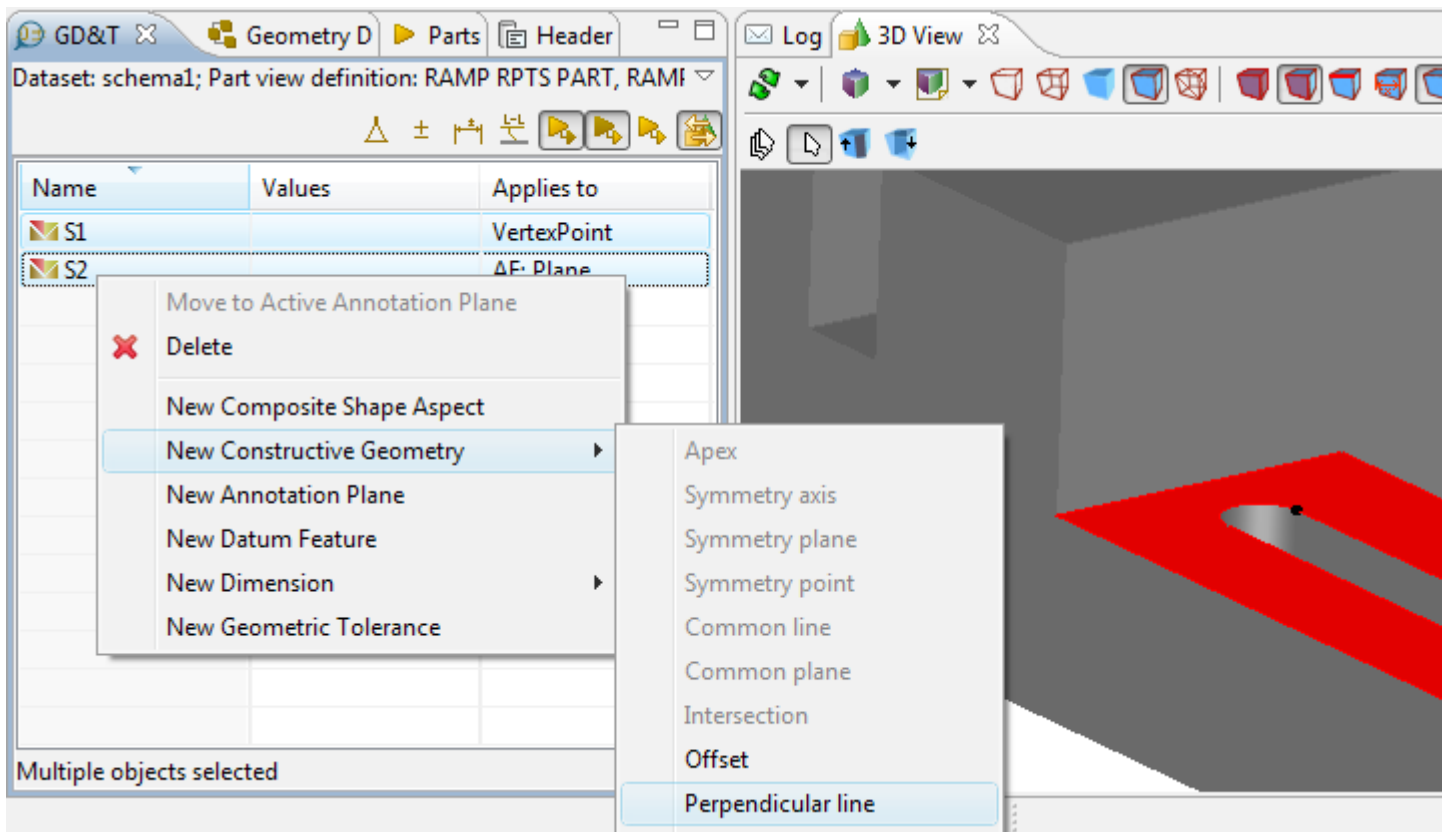

Figure 1. Selected items: plane and point, menu item to create perpendicular line in GD&T view and surface and point in 3D View
- Right click and select **Create Constructive Geometry -> Perpendicular line** item in the appeared context sensitive menu (see Figure 1).